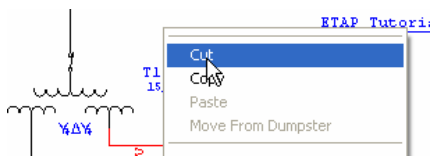

Fig. 7
7. Right-click anywhere on the canvass and select “Cut” command from the pop-up menu. See Fig. 7